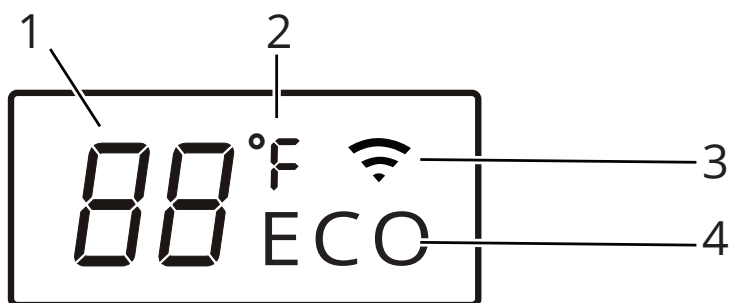

Fig. 1.2
**Display** (on front panel of indoor unit) see fig. 1.2